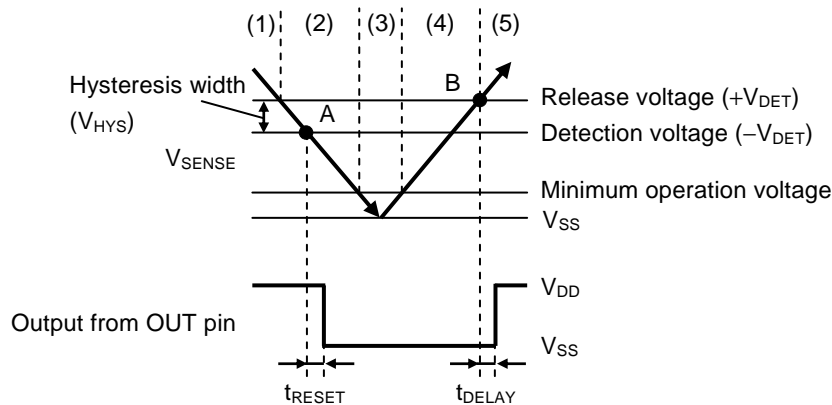
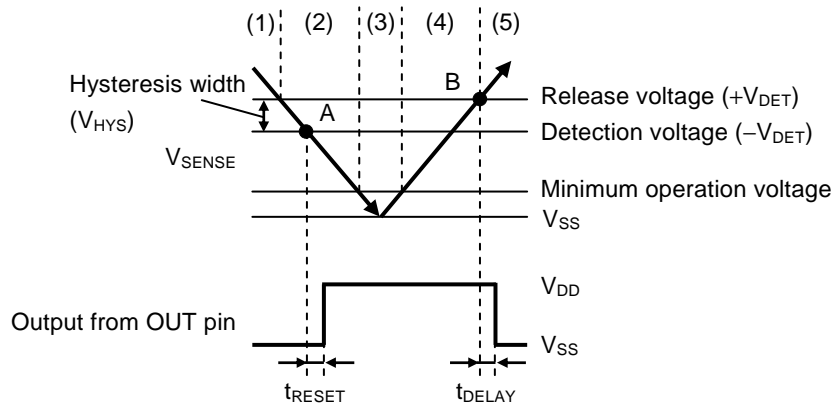

Figure 33 Timing Chart of S-19110 Series N Type
Figure 35 Timing Chart of S-19110 Series P Type
The hysteresis width is the voltage difference between the detection voltage and the release voltage (the voltage at point B – the voltage at point A = V_{HYS} in **Figure 25**, **Figure 27**, **Figure 33** and **Figure 35**). Setting the hysteresis width between the detection voltage and the release voltage, prevents malfunction caused by noise on the input voltage.
When V_{SENSE} decreases to $-V_{DET}$ or lower (point A in **Figure 33**), the Nch transistor is turned on. And then V_{SS} ("L") is output from the OUT pin after the elapse of the detection delay time (t_{RESET}).
(3) Even if V_{SENSE} further decreases to the IC's minimum operation voltage or lower, the output from the OUT pin is stable when V_{DD} is minimum operation voltage or higher.
(4) Even if V_{SENSE} exceeds $-V_{DET}$, V_{SS} is output when V_{SENSE} is lower than $+V_{DET}$.
(5) When V_{SENSE} increases to $+V_{DET}$ or higher (point B in **Figure 33**), the Nch transistor is turned off. And then V_{DD} is output from the OUT pin after the elapse of the release delay time (t_{DELAY}) when the output is pulled up.
When V_{SENSE} decreases to $-V_{DET}$ or lower (point A in **Figure 35**), the Nch transistor is turned off. And then V_{DD} ("H") is output from the OUT pin after the elapse of the detection delay time (t_{RESET}) when the output is pulled up.
- (3) Even if V_{SENSE} further decreases to the IC's minimum operation voltage or lower, the output from the OUT pin is stable when V_{DD} is minimum operation voltage or higher.
- (4) Even if V_{SENSE} exceeds $-V_{DET}$, V_{DD} is output when V_{SENSE} is lower than $+V_{DET}$.
- (5) When V_{SENSE} increases to $+V_{DET}$ or higher (point B in **Figure 35**), the Nch transistor is turned on. And then V_{SS} is output from the OUT pin after the elapse of the release delay time (t_{DELAY}).